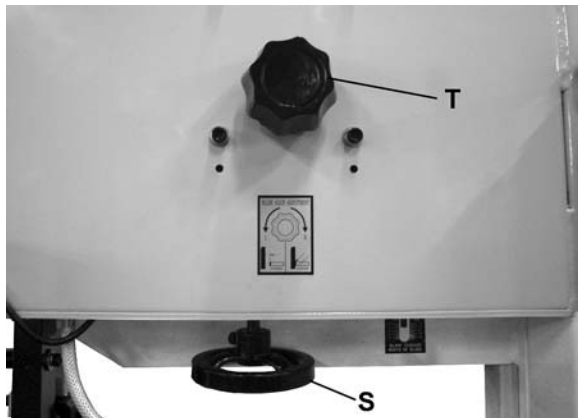

Figure 5
**Blade Tension Handwheel (S, Figure 5)** – located on underside of upper frame. Turn clockwise to tension blade; counterclockwise to release tension on blade.
**Blade Tracking Handwheel (T, Figure 5)** – located at upper rear of saw. Turn clockwise to track blade toward front of blade wheel. Turn counterclockwise to track blade toward rear of blade wheel.